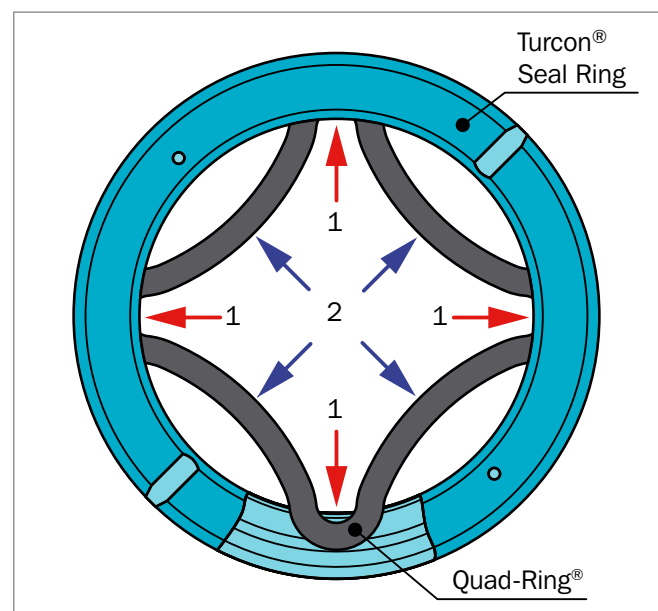

Figure 166: Insert sections of Quad-Ring® diagonally into the lubrication groove
- 2) Insert four small sections of the Quad-Ring® cord into the lubrication groove, as shown at the red arrows on Figure 166. Continue to insert sections in direction of the blue arrows, followed by more sections, until the entire cord is mounted.